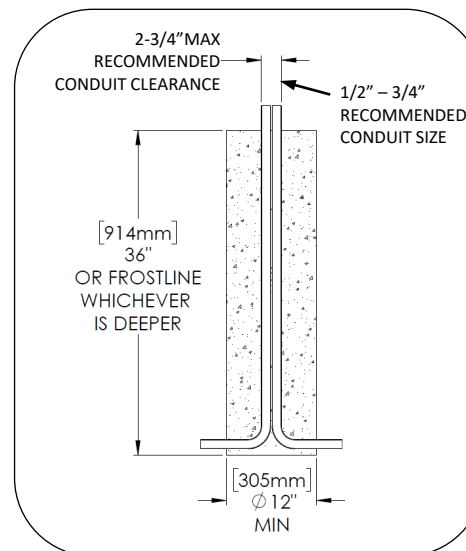
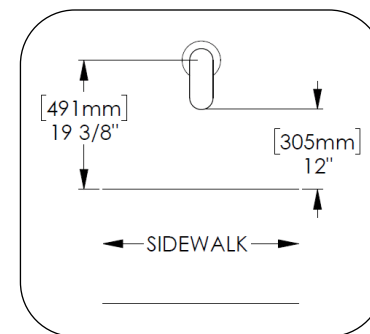
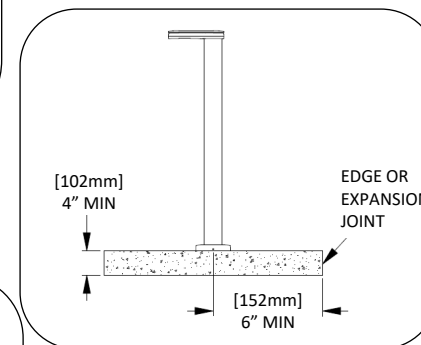

Fig. 1 – Minimum footing recommendation
Fig. 2 – Recommended setback from sidewalk
Fig. 3 – Minimum concrete slab size
1. Prepare footing as required by local codes, see Fig. 1, Fig. 2 and Fig. 3 for recommendations.